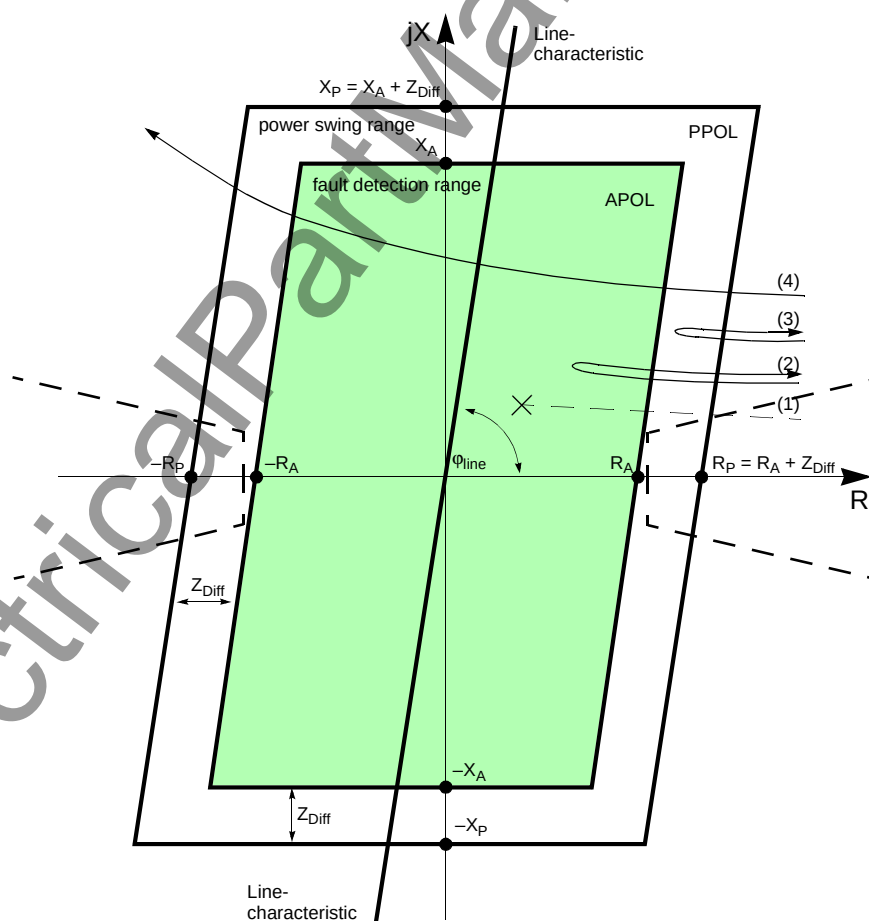

Figure 6-40 Pick up characteristic of the power swing detection for a polygon.
To detect a power swing, the rate of change of the impedance vector is measured. The measurement is started when the impedance vector enters the power swing measuring range PPOL (refer to Figure 6-40). The fault detection range APOL is made up of the largest set values for R and X of all the activated zones. The power swing zone has a minimum distance Z_{diff} of 5 Ω (at $I_N = 1$ A) or 1 Ω (at $I_N = 5$ A) in all directions from the fault detection zone. In the event of a short-circuit (1), the impedance vector abruptly changes from the load condition into this fault detection range. However, in the event of a power swing, the apparent impedance vector initially enters the power swing range PPOL and only later enters the fault detection range APOL (2). It is also possible that a power swing vector will enter the area of the power swing range and leave it again without coming into contact with the fault detection range (3). If the vector enters the power swing polygon and passes through it leaving on the opposite side, then the sections of the network seen from the relay location have lost synchronism (4): The power transfer is unstable.
When the impedance vectors identified by the power swing detection exit the power swing characteristic PPOL, the sign of the R components in the vectors are checked to see if they are the same on exiting and entering the characteristic. If this is the case, the power swing process is inclined to stabilize. Otherwise, the vector passed through the power swing characteristic (loss of synchronism, case (4) in Figure 6-40). The device issues a three-pole trip command, thereby isolating the two system segments from each other. Power swing tripping is alarmed.